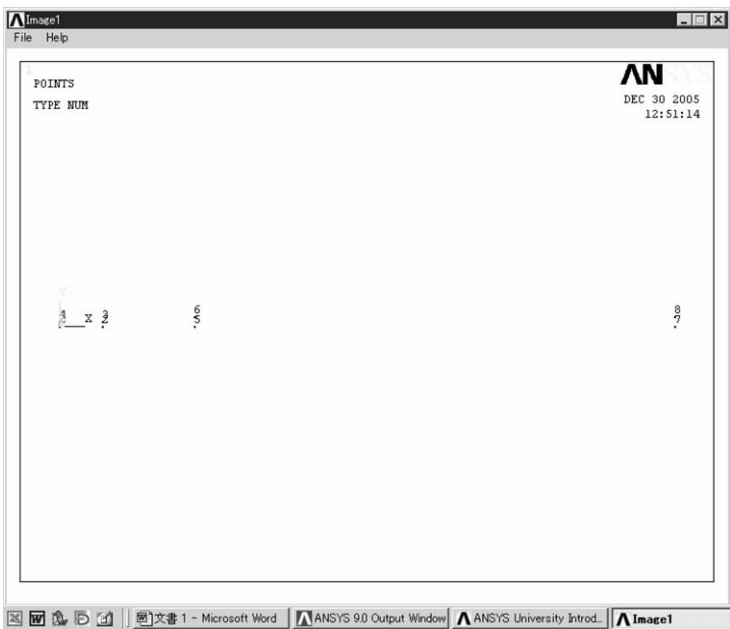
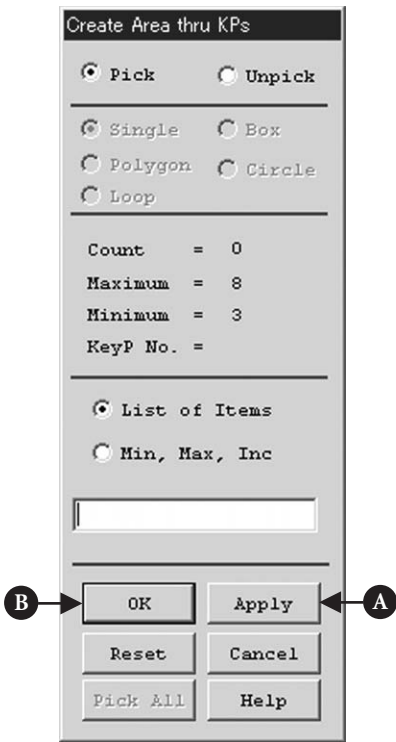

Figure 5.9 ANSYS Graphics window.
Figure 5.10 Window of Create Area thru KPs.
- (4) After finishing step (3), eight keypoints appear on the window as shown in Figure 5.9.
- (1) The window **Create Area thru KPs** opens (Figure 5.10).
- (2) Pick keypoints 1, 2, 3, and 4 in Figure 5.9 in order and click [A] **Apply** button in Figure 5.10. One area of the diffuser is created on the window.
- (3) Then another two areas are made on the window by clicking keypoints listed in Table 5.2.
- (4) When three areas are made, click [B] **OK** button in Figure 5.10.